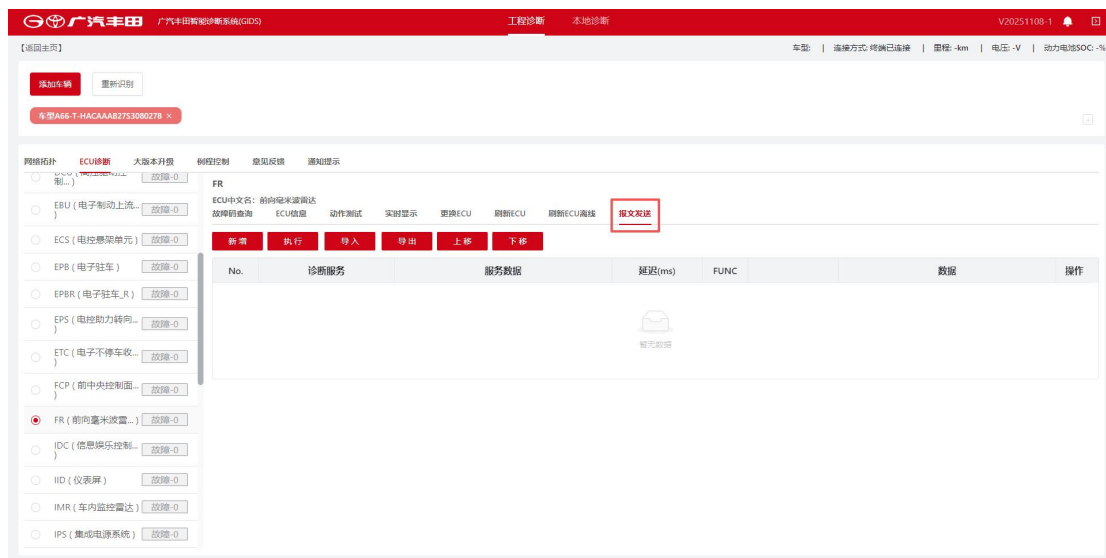

Figure 5-35 Message Transmission
1. Select the ECU, as shown in Figure 5-35 Message Transmission. Click the Message Transmission tab, then click [Add].